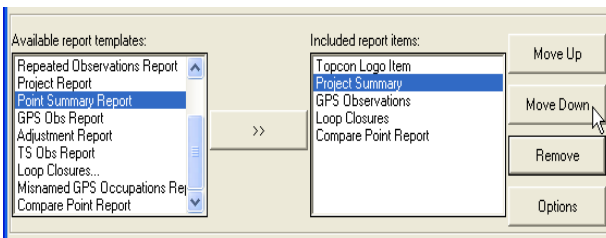

Figure 7-31. Order Included Items
3. Select items and click the **Move Up** and **Move Down** buttons to set the order of items in the included list (Figure 7-31).